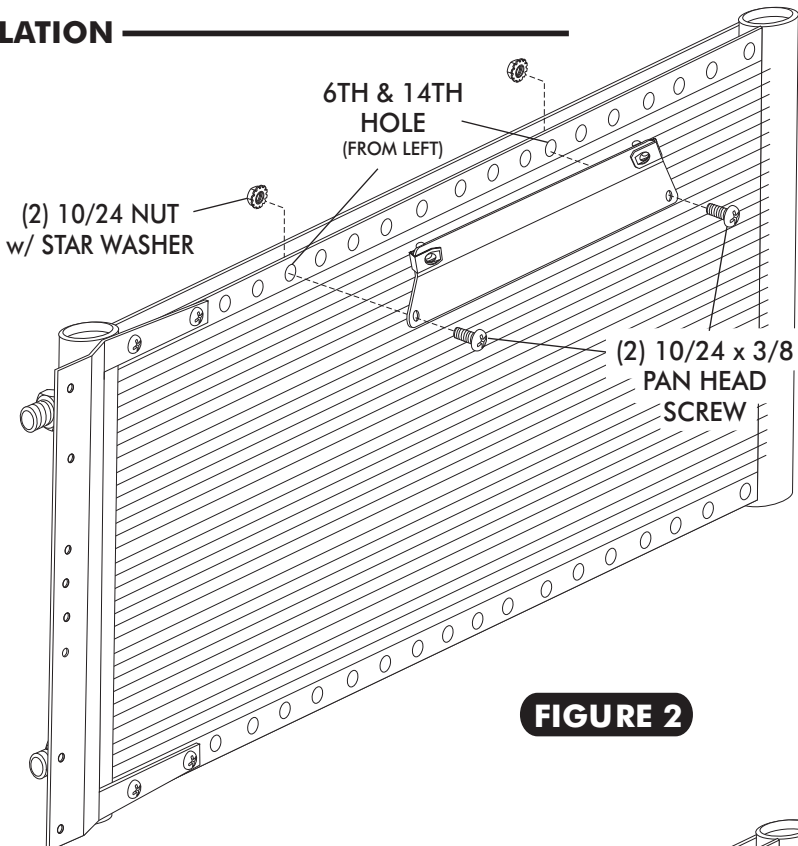

FIGURE 2
- INSTALL TOP MOUNTING BRACKET ON TO CONDENSER USING (2) 10/24 x 3/8 PAN HEAD SCREWS AND (2) 10/24 NUTS WITH STAR WASHERS. SEE FIGURE 2 BELOW. **NOTE: BRACKET MOUNT THROUGH THE 6TH HOLE FROM THE LEFT SIDE OF THE CONDENSER.**